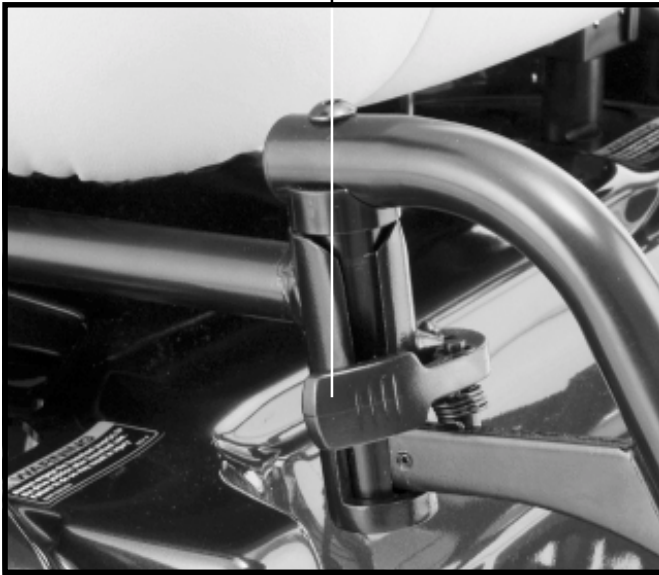

Figure 20. Swing-Away Footrests
1. Push in the release lever. See figure 20.